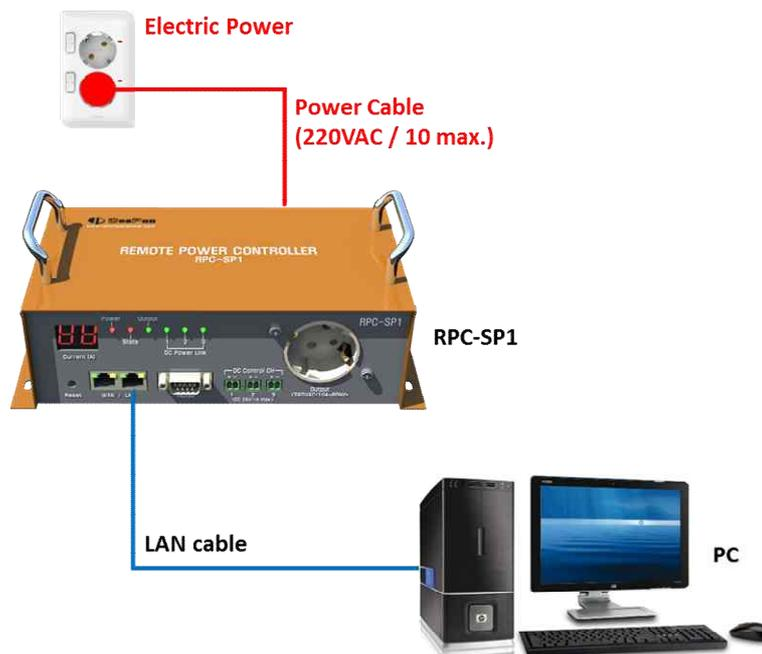

Figure 3-1. Example (Connection between RPC-SP1 and user's PC for network setting)
- ① Connect the power cord or power cable between RPC-XXX and electric power source and switch on the main switch.
- ② Connect the each end of RJ-45 cable to LAN ports of RPC-XXX and your computer respectively. RJ-45 cable is included in the package. (Figure 3-1)